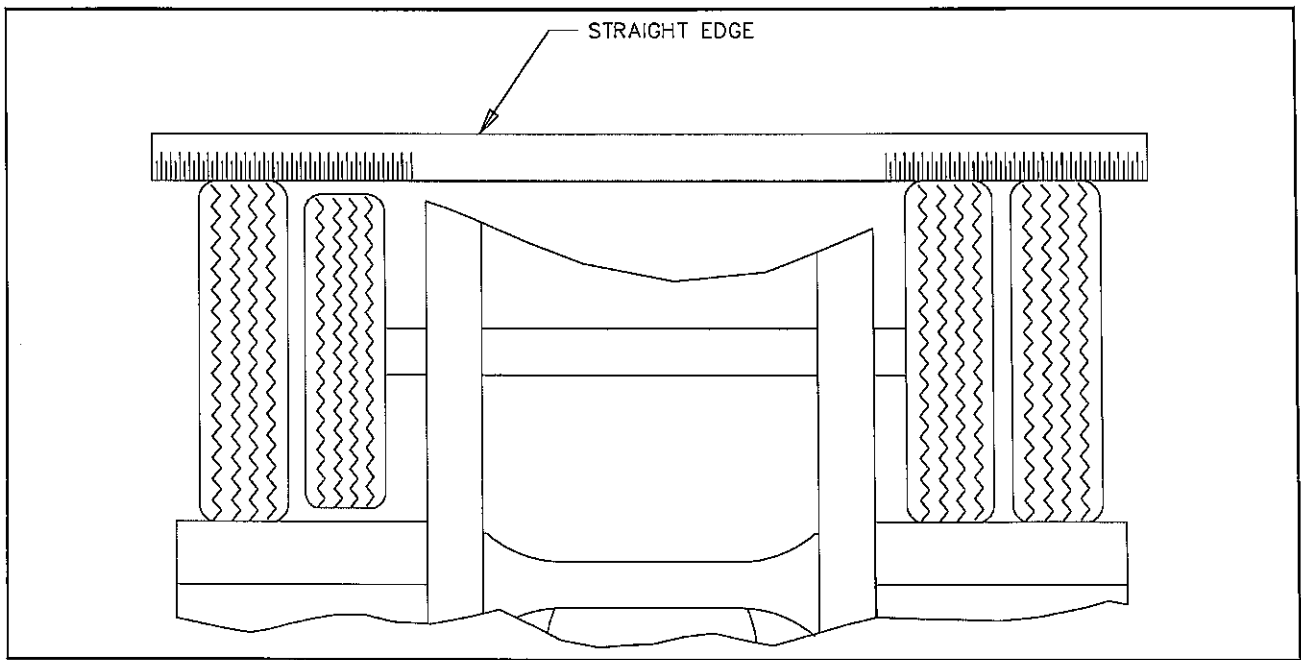

Figure 4-12 Straight Edge Method
b. Straight Edge or String Method: (This method can not be used if tire and wheel assemblies are not mounted on the axle.) Jack trailer up until the wheels are off of the ground. Hold a straight edge against the tires of both ends of an axle. A gap at one tire indicates a smaller tire. A maximum of $1/8$ " gap is allowed (See Figure 4-12).